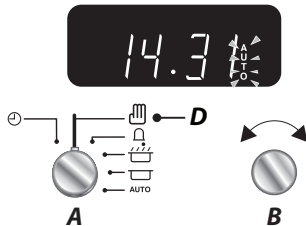

Fig. 2.31
- I. Turn the **Adjusting (B)** knob counter-clockwise or clockwise (**Fig. 2.31**).
- II. Turn either the **Timer (A)** knob to the **Clock (C)** or to the **Minute Minder (E)** setting. Return to **Manual (D)** for normal cooking mode (**Fig. 2.31**).